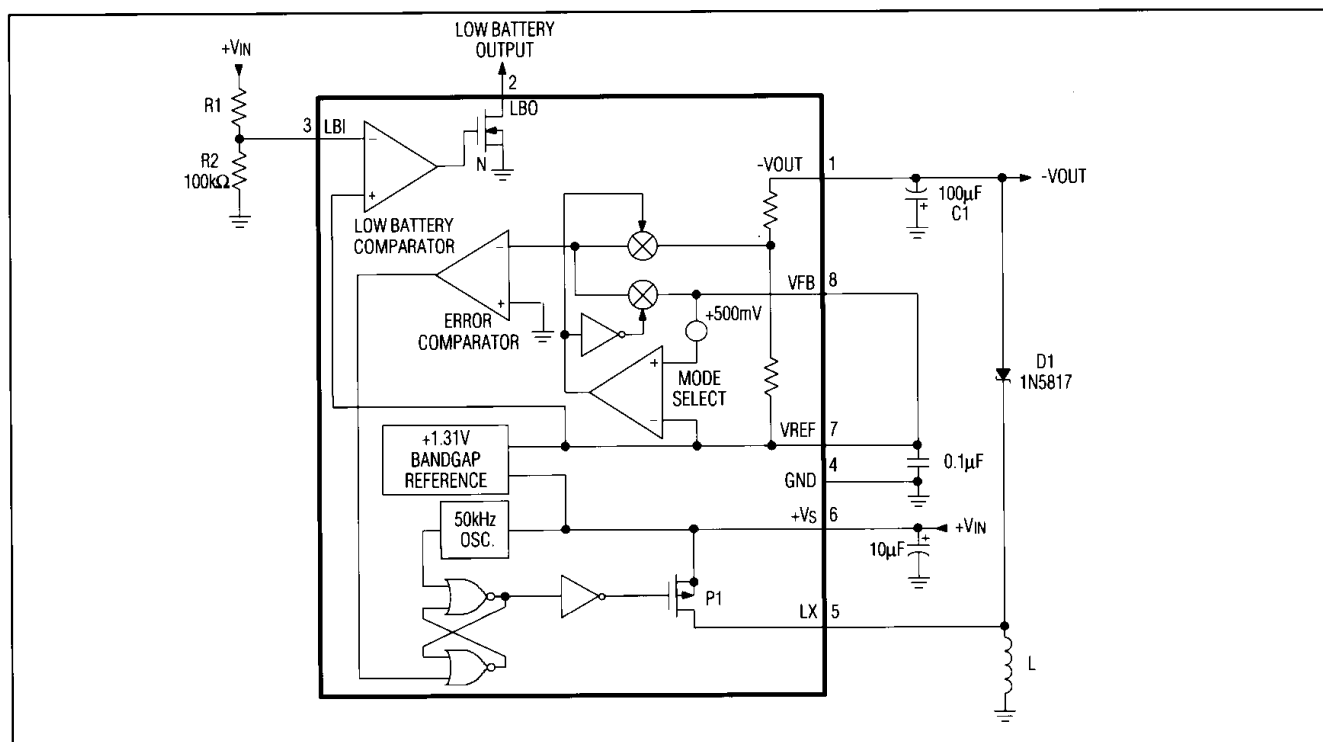

Figure 2. MAX635/636/637 Block Diagram and Typical Circuit (Table 2)
Figure 2 shows the standard circuit for converting a positive voltage into a negative one. When the output becomes more positive than the preset level, the Error Comparator switches low, and the MOSFET at LX is toggled on and off at the clock frequency. During the low-going period of the oscillator, P1 is on, and current is delivered to the external inductor through the LX pin.
Table 1 lists some coil manufacturers and typical part numbers. Table 2 shows nominal inductor parameters for a variety of input and output voltages. The data refers to the circuit of Figure 2. When noise is not critical, a
**Note 4:** Permag Corp. is a distributor for many of the listed core and toroid manufacturers (516) 822-3311.
**Table 2. Inductor Selection for Common Designs (Figure 2)**
The Low Battery Output, LBO, sinks current whenever the input voltage at Low Battery Input, LBI, is less than +1.31V. LBI is a high impedance CMOS input, with less than 10nA leakage current. LBO is an open drain N-channel MOSFET with about 500Ω of output resistance. The trip voltage of the Low Battery Detector can be adjusted using an external voltage divider as shown in Figure 2. If hysteresis is desired, add a resistor between LBO and LBI.